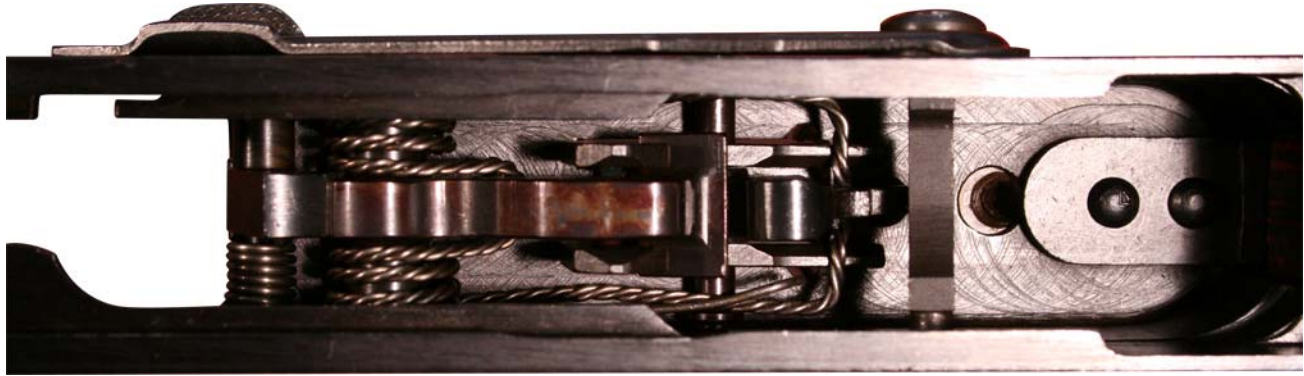

Figure 6. Moving Parts and Pins in the Receiver.
- (5) Lightly lubricate all moving parts and pins inside the receiver. Refer to Figure 6.